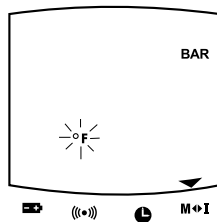

Figure 14
4. The °F or °C starts to flash (figure 14). Press the left or right button to toggle between °F and °C. Press both buttons to accept and return to Standby Mode. If there is no button activity for 30 seconds, the gauge will automatically return to Standby Mode.